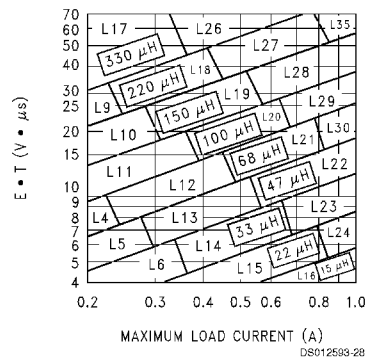

FIGURE 7. LM2598-ADJ
<p>Given: V_{OUT} = Regulated Output Voltage $V_{IN(max)}$ = Maximum Input Voltage $I_{LOAD(max)}$ = Maximum Load Current F = Switching Frequency (Fixed at a nominal 150 kHz).</p> <p>1. Programming Output Voltage (Selecting R_1 and R_2, as shown in Figure 1) Use the following formula to select the appropriate resistor values.</p> $V_{OUT} = V_{REF} \left(1 + \frac{R_2}{R_1} \right) \quad \text{where } V_{REF} = 1.23V$ <p>Select a value for R_1, between 240Ω and 1.5 kΩ. The lower resistor values minimize noise pickup in the sensitive feedback pin. (For the lowest temperature coefficient and the best stability with time, use 1% metal film resistors.)</p> $R_2 = R_1 \left(\frac{V_{OUT}}{V_{REF}} - 1 \right)$ <p>2. Inductor Selection (L1) A. Calculate the inductor Volt • microsecond constant $E \cdot T$ ($V \cdot \mu s$), from the following formula:</p> $E \cdot T = (V_{IN} - V_{OUT} - V_{SAT}) \cdot \frac{V_{OUT} + V_D}{V_{IN} \cdot V_{SAT} + V_D} \cdot \frac{1000}{150 \text{ kHz}} (V \cdot \mu s)$ <p>where V_{SAT} = internal switch saturation voltage = 1V and V_D = diode forward voltage drop = 0.5V</p> <p>B. Use the $E \cdot T$ value from the previous formula and match it with the $E \cdot T$ number on the vertical axis of the Inductor Value Selection Guide shown in Figure 7.</p> <p>C. on the horizontal axis, select the maximum load current.</p> <p>D. Identify the inductance region intersected by the $E \cdot T$ value and the Maximum Load Current value. Each region is identified by an inductance value and an inductor code (LXX).</p> <p>E. Select an appropriate inductor from the four manufacturer's part numbers listed in Figure 8.</p> <p>3. Output Capacitor Selection (C_{OUT}) A. In the majority of applications, low ESR electrolytic or solid tantalum capacitors between 82 μF and 220 μF provide the best results. This capacitor should be located close to the IC using short capacitor leads and short copper traces. Do not use capacitors larger than 220 μF. For additional information, see section on output capacitors in application information section.</p>	<p>Given: $V_{OUT} = 20V$ $V_{IN(max)} = 28V$ $I_{LOAD(max)} = 1A$ F = Switching Frequency (Fixed at a nominal 150 kHz).</p> <p>1. Programming Output Voltage (Selecting R_1 and R_2, as shown in Figure 1) Select R_1 to be 1 kΩ, 1%. Solve for R_2.</p> $R_2 = R_1 \left(\frac{V_{OUT}}{V_{REF}} - 1 \right) = 1k \left(\frac{20V}{1.23V} - 1 \right)$ <p>$R_2 = 1k (16.26 - 1) = 15.26k$, closest 1% value is 15.4 kΩ. $R_2 = 15.4 \text{ k}\Omega$.</p> <p>2. Inductor Selection (L1) A. Calculate the inductor Volt • microsecond constant ($E \cdot T$),</p> $E \cdot T = (28 - 20 - 1) \cdot \frac{20 + 0.5}{28 - 1 + 0.5} \cdot \frac{1000}{150} (V \cdot \mu s)$ $E \cdot T = (7) \cdot \frac{20.5}{27.6} \cdot 6.67 (V \cdot \mu s) = 34.8 (V \cdot \mu s)$ <p>B. $E \cdot T = 34.8 (V \cdot \mu s)$</p> <p>C. $I_{LOAD(max)} = 1A$</p> <p>D. From the inductor value selection guide shown in Figure 7, the inductance region intersected by the 35 ($V \cdot \mu s$) horizontal line and the 1A vertical line is 100 μH, and the inductor code is L29.</p> <p>E. From the table in Figure 8, locate line L29, and select an inductor part number from the list of manufacturers part numbers.</p> <p>3. Output Capacitor Selection (C_{OUT}) A. See section on C_{OUT} in Application Information section.</p>